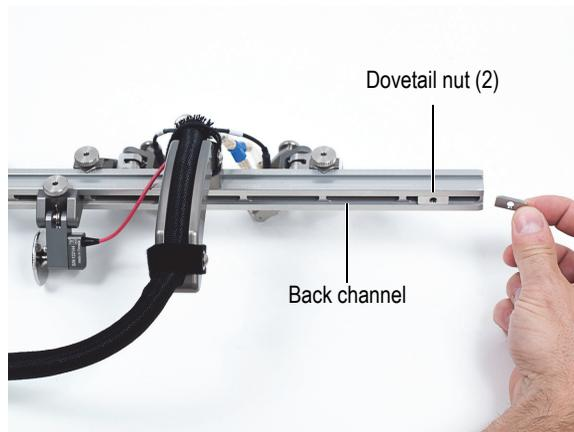

Figure 1-21 Inserting dovetail nuts in the frame bar back channel
2. Remove both dovetail nuts from the frame bar, and then insert them in the back channel (see Figure 1-21 on page 24).